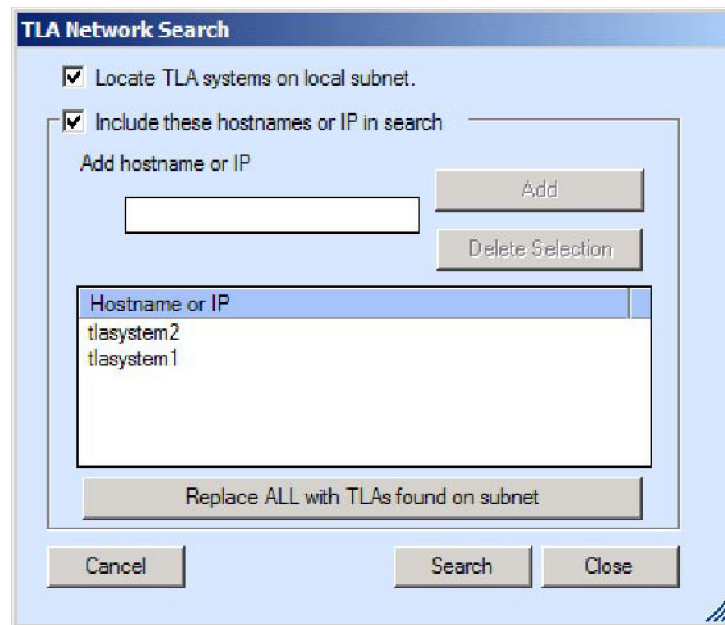

Figure 29: TLA Network Search dialog box
- a. Click  (Search icon) to open the TLA Network Search dialog box. (See Figure 29.)